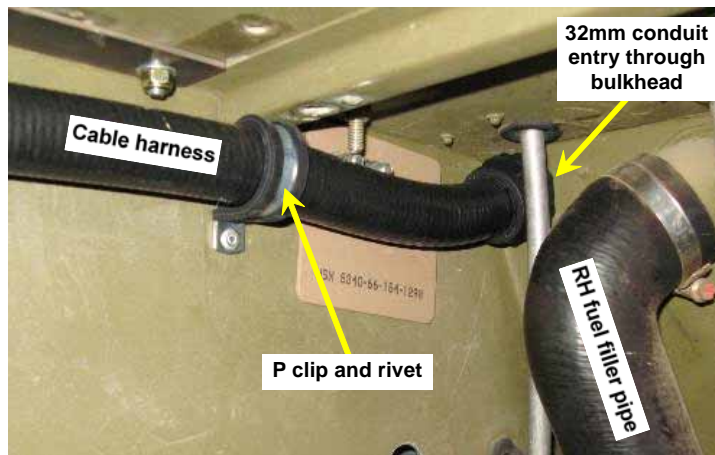

Figure 31 Routing and Securing the Crossover-to-load Centre Harness - Front
- (7) Working from inside the Driver's side battery enclosure, feed the gland end of the crossover-to-load centre harness (Table 1, Item 59) into the cabin through the hole in the bulkhead. Fit the gland nut to secure the conduit in place (Figure 31).
- (8) Route the conduit section of the harness along the upper inner edge of the enclosure towards the 150-amp circuit breakers mounted on the guard arch. Use P clips (Table 1, Item 84) and pop rivets (Table 1, Item 88) to secure the harness in position as shown in Figures 31 and 32.